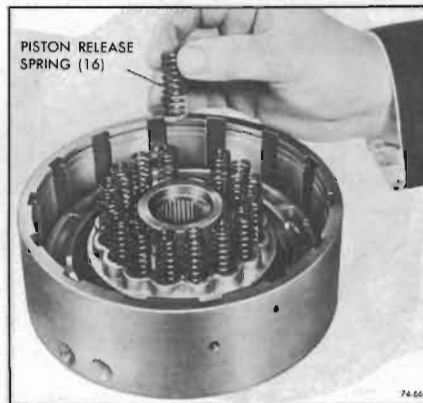

Figure 74-661
4. Install clutch release springs into pockets in piston. See Figure 74-661.